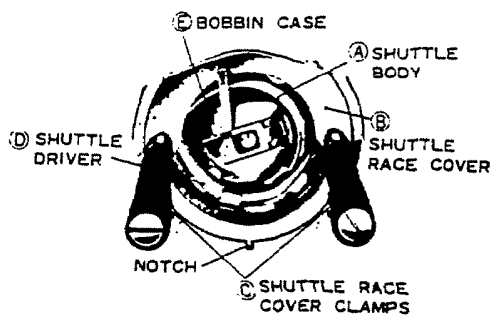

Fig. 63
1. Turn hand wheel until the needle reaches its highest position. The mechanism will assume the position illustrated in (Fig. 63). Tilt head back on its hinges.